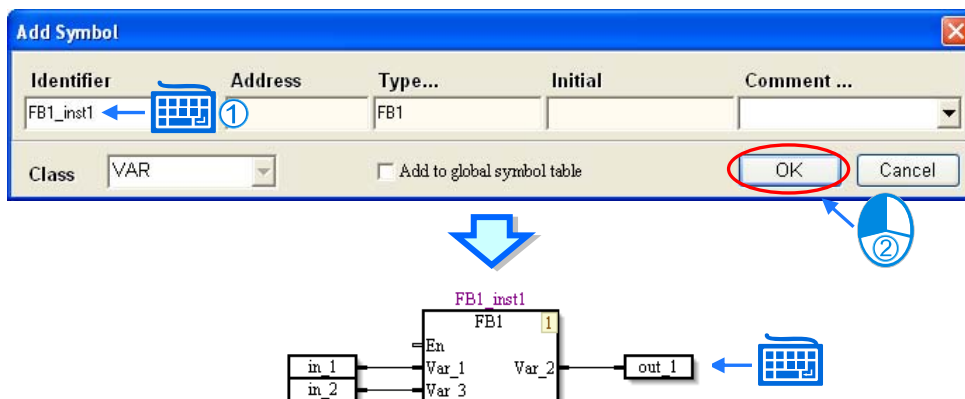

Figure 12-30 Declaring a function block instance
- (2) The users have to type a function block instance in the **Add Symbol** window. (The users have to create a symbol whose data type is a function block.) Then, the users have to click **OK**, or press Enter on the keyboard, as shown in figure 12-30. Finally, the users have to assign devices or symbols to the pins of the function block inserted.